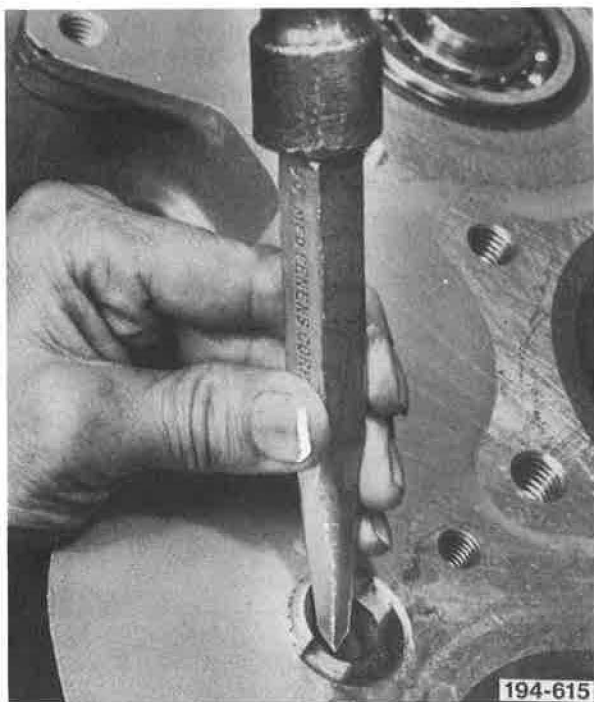

Figure 5-291. Removing Expansion Plug
23. Punch holes in the reverse idler shaft expansion plugs, and remove plugs. See Figure 5-291.